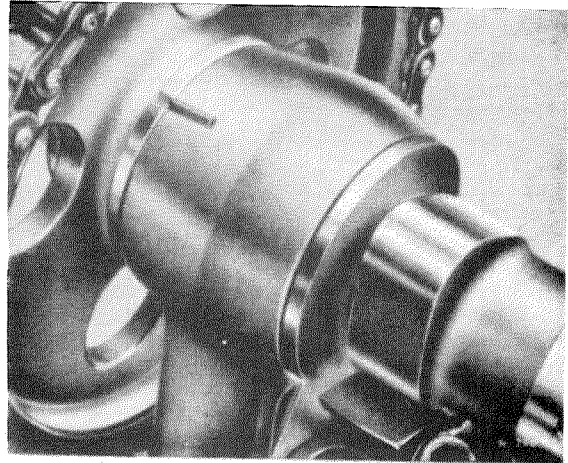

Fig. 01—3/32
2. The marks on the compensating washer of the camshaft and on the first camshaft bearing must now correspond (Fig. 01—3/32).